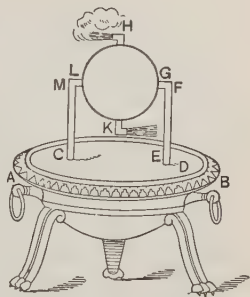

FIGURE 643. — HERO'S ENGINE.
**441. Early Steam Engines.** — The earliest steam engine is attributed to Hero. A sphere, mounted so as to revolve, received steam from a boiler through hollow axles (Figure 643).